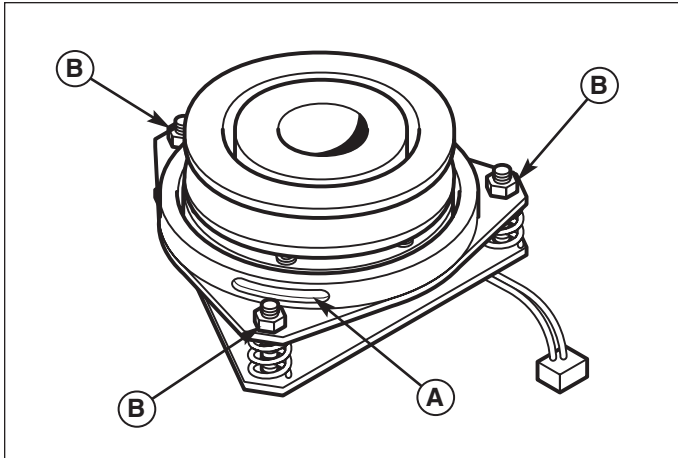

Figure 25. PTO Clutch Adjustment
2. See Figure 25. Note the position of the 3 adjustment windows (A) in the side of the brake plate and the nylock adjustment nuts (B).
4. Alternately tighten the adjustment nuts (B, Figure 25) until the rotor face and armature face just contacts the gauge.